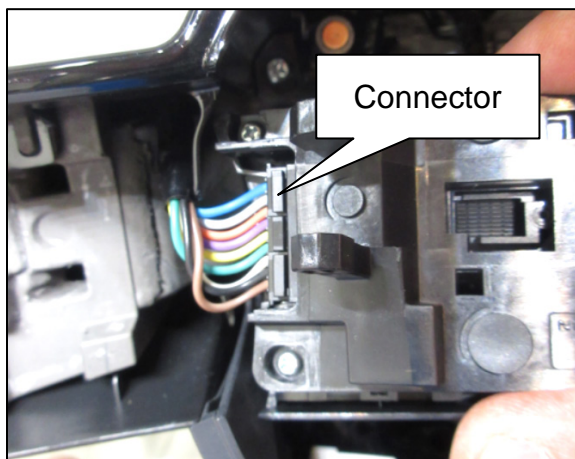

Figure 22
15. Install the connector for the replacement switch assembly until it clicks and is secure, as shown in Figure 22.